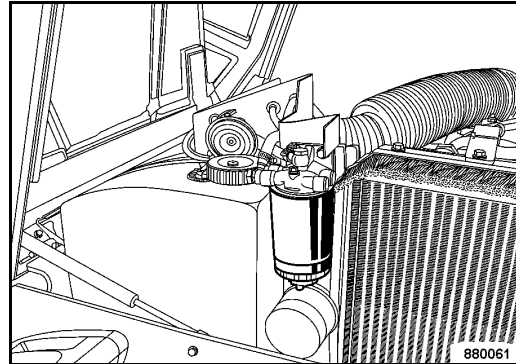

Fig. 156
- Slacken and unscrew the fuel filter cartridge (Fig. 156).